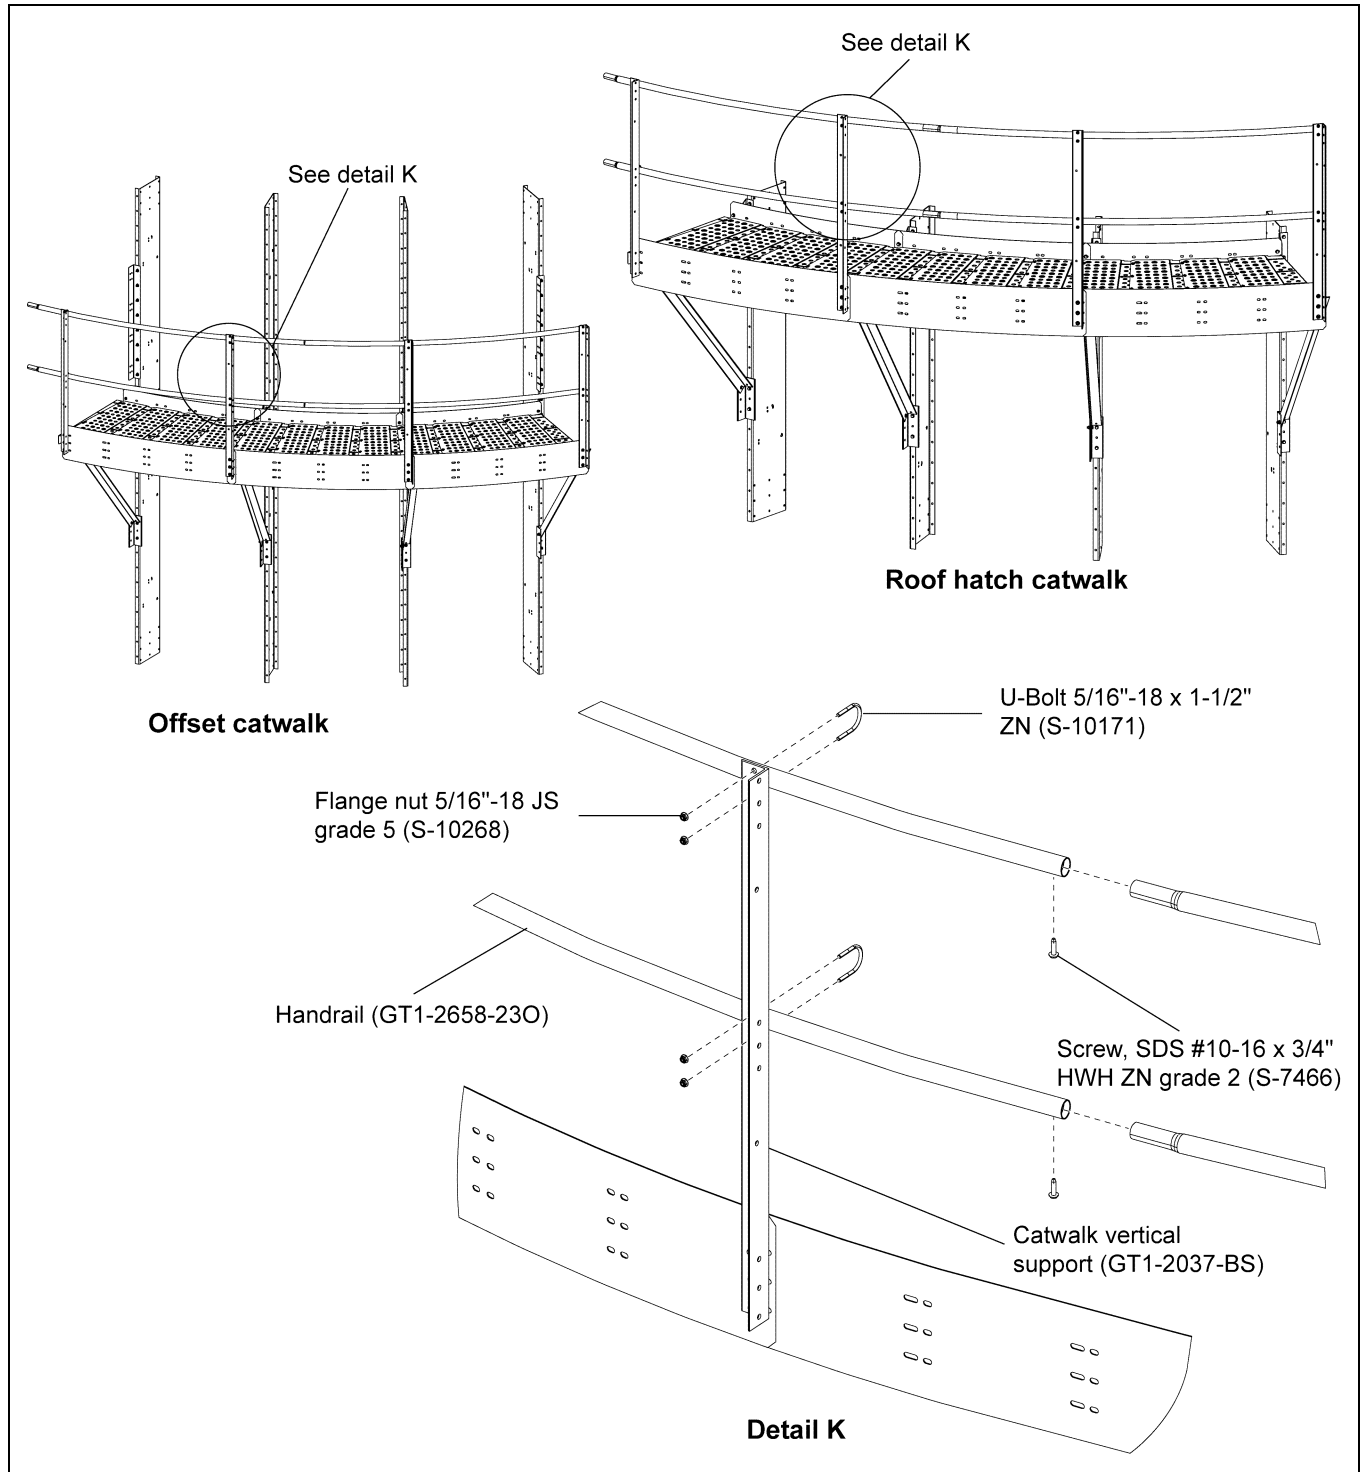

Figure 6U Handrail (GT1-2658-230) Installation for Offset and Roof Hatch Catwalks
1. Install the long handrail (GT1-2658-230) to the catwalk vertical support (GT1-2037-BS) using 5/16"-18 ZN U-bolts (S-10171) and 5/16"-18 JS grade 5 nuts (S-10268) to tighten the handrail with vertical post. (See Figure 6U.)
2. Use the self-tapping screws SDS #10-16 x 3/4" HWH ZN grade 2 (S-7466) at all handrail pipe joints. (See Figure 6U.)